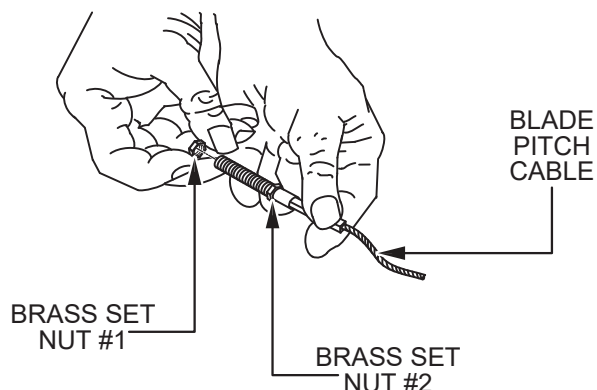

**Figure 13. Blade Pitch Cable Adjustment (Quick Pitch™ Handle)**
2. For trowels equipped with a **Quick Pitch™** handle, squeeze the trigger lock and push the T-handle towards the engine to release tension on the blade pitch cable. See Figure 13.